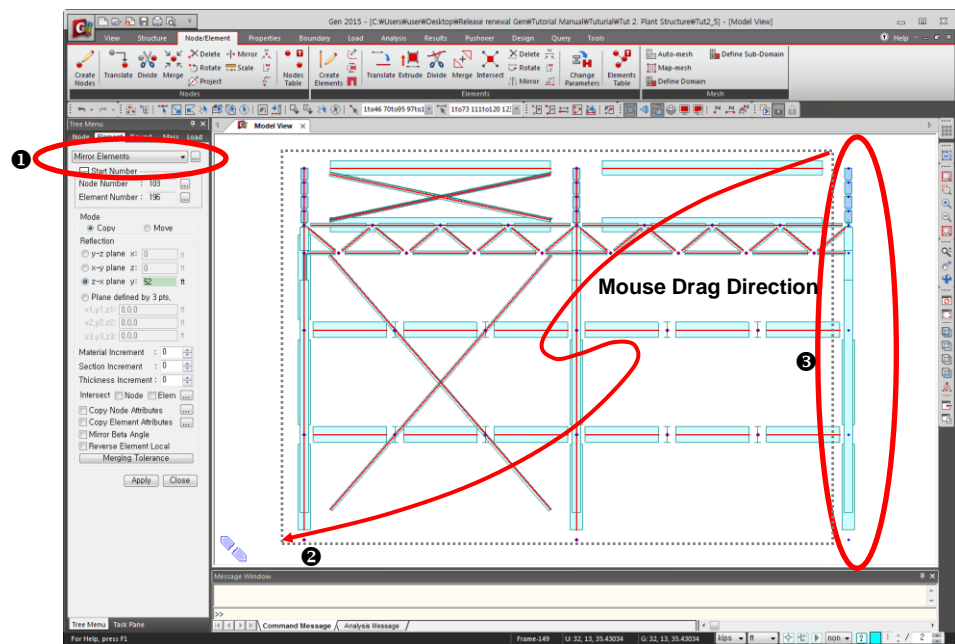

Figure 2.15 Selection of Target Elements of Mirror Elements
4. Select **Mirror Elements** in the functions selection field (Fig.2.15–①).
6. Drag the mouse from right to left as shown in Fig.2.15–② to select the nodes and elements to be duplicated.
When selecting members for duplication, exclude the elements contained in the plane of symmetry (Fig. 2.15–③). When using  Select Window, only the elements completely included in the window are selected by dragging the mouse from left to right, and the elements intersecting the boundary of the window are also selected by dragging the mouse from right to left. For this reason the mouse is dragged from right to left.